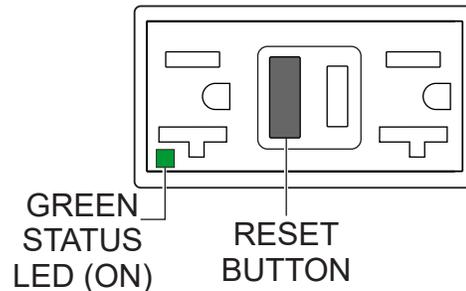

Figure 52. GFCI Receptacle (ON/Restore)
5. Press the **RESET** button (Figure 52) to restore power to the GFCI receptacle and verify that the status LED is **ON (GREEN)**.